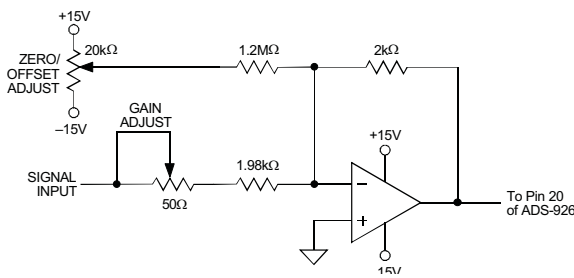

Figure 2. ADS-926 Calibration Circuit
Bypass all power supplies and the REFERENCE OUTPUT (pin 21) to ground with 4.7µF tantalum capacitors in parallel with 0.1µF ceramic capacitors. Locate the bypass capacitors as close to the unit as possible. If the user-installed offset and gain adjusting circuit shown in Figure 2 is used, also locate it as close to the ADS-926 as possible.
can be reduced to zero using the input circuit of Figure 2. When using this circuit, or any similar offset and gain-calibration hardware, make adjustments following warmup. To avoid interaction, always adjust offset before gain.
**CALIBRATION PROCEDURE (Refer to Figures 2 and 3)**
Any offset and/or gain calibration procedures should not be implemented until devices are fully warmed up. To avoid interaction, offset must be adjusted before gain. The ranges of adjustment for the circuit of Figure 2 are guaranteed to compensate for the ADS-926's initial accuracy errors and may not be able to compensate for additional system errors.
All fixed resistors in Figure 2 should be metal-film types, and multturn potentiometers should have TCR's of 100ppm/°C or less to minimize drift with temperature.